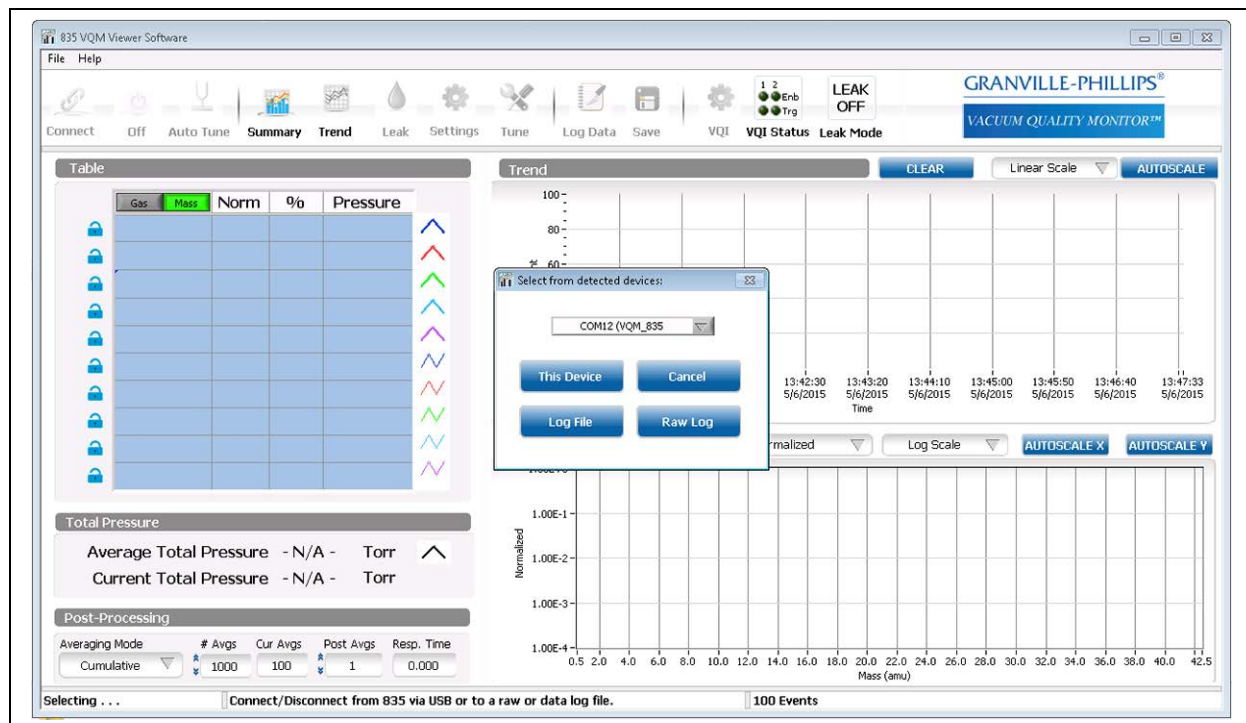

Figure 8-3 Initial Connection Screen
- Click on the Connect icon on the Viewer Application display screen to activate the connection between the computer and the 835 VQM System. See Figures 8-3 and 8-4.